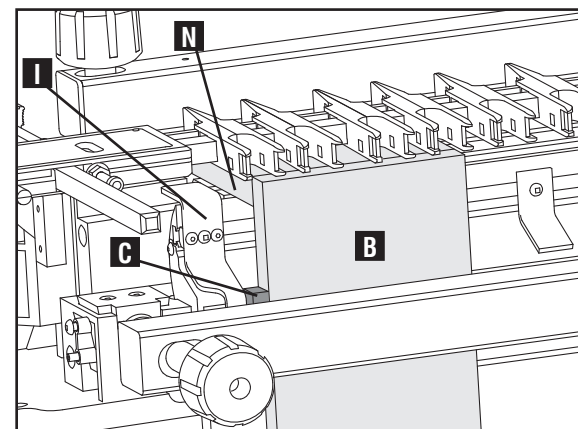

Fig. G9
2. Place scrap boards - one is shown at (N) Fig. G9 - in horizontal position and bring template down.
3. Place your spacer setup block (C) Fig. G9 flush against left edge guide (I).
4. Position the tail board (drawer side) (B) Fig. G9 in vertical position flush against the spacer and up against the template with "outside surface" against the jig.
5. Position the horizontal scrap board (N) Fig. G9 forward against the back edge of the tailboard (to help reduce tear-out).
If you are making a drawer that has half-blind joints at all corners and you want to retain the same finger spacing all the way around, use the spacer (C) Fig. G9 when cutting the back pinboard. When mounting the back drawer pinboard horizontally, simply offset the board using the spacer in between the board and the left edge guide before tightening the workpiece and making the cut.